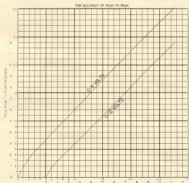

FIGURE 4-1 PEAK-TO-PEAK CHART
(1) Read the numerical value of the capacity directly from the scale. Find the associated impedance on the graph given in Figure 4.1. This value is XL in the formula below.
(2) Note the RANGE SELECTOR, whether it is on X1 = X10 = X100, etc., ohms. This value is R in the formula below.
(3) Determine the reactance of the inductance by means of an ohmmeter. This value is RL in the same formula.
(4) Knowing RL and whether the selector switch was on X1 = X10 = X100 etc., also knowing XL determine the inductive reactance XL from the formula below.
Therefore, the error due to the resistance is greater than 24. Referring to the graph in Figure 4.1, we find that the impedance for a capacity reading of 8.8 MFD is 300 ohms. Substituting in the formula: